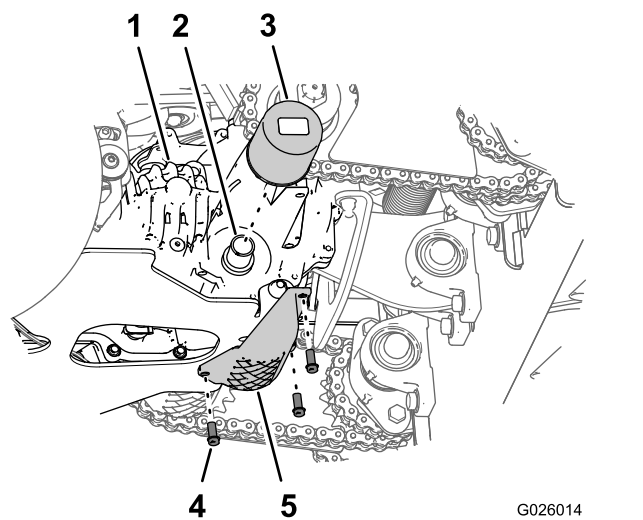

Figure 68
3. Remove the 3 washer-head bolts (1/4 x 3/4 inch) that secure the filter guard to the transmission, and remove the guard (Figure 68).
4. Clean the around the transmission filter (Figure 68).
6. Rotate the filter counterclockwise and remove the filter (Figure 68).
8. Install the filter by rotating it clockwise onto the filter adapter until the seal contacts the base of the adapter, then tighten the filter an additional 3/4 to 1 turn (Figure 68).
9. Install the filter guard with the 3 washer-head bolts (1/4 x 3/4 inch) that you removed in step 3 (Figure 68), and tighten the bolts to 1117 to 1243 N-cm (90 to 110 in-lb).